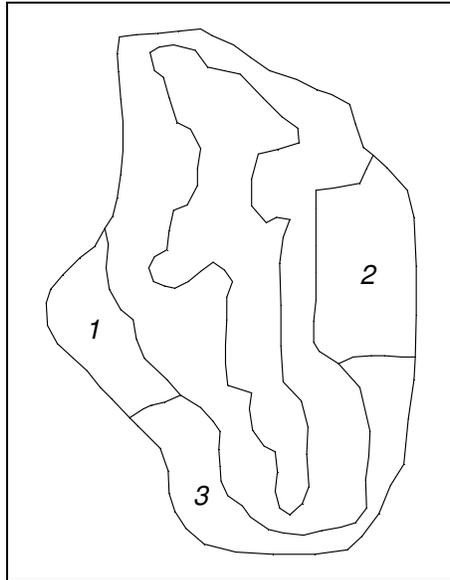

Figure 10-1 Polygons to be Selected.
3. While holding the *Shift* key, select polygons 1 and 2 shown in Figure 10-1.
7. Double click on polygon 3 shown in Figure 10-1.